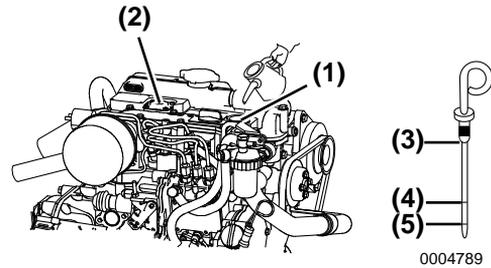

Figure 6
2. **NOTICE:** Prevent dirt and debris from contaminating engine oil. Carefully clean the dipstick, filler port cap and the surrounding area before you remove the cap. Remove the dipstick (Figure 6, (3)) and wipe with a clean cloth.
4. Remove the dipstick. The oil level should be between upper (Figure 6, (4)) and lower (Figure 6, (5)) lines on the dipstick.
1. *NOTICE: Prevent dirt and debris from contaminating engine oil. Carefully clean the dipstick, filler port cap and the surrounding area before you remove the cap. Remove the yellow oil filler port cap from the filler port (Figure 6, (1)) on the rocker arm cover (Figure 6, (2)) and fill with engine oil.*
2. Fill with engine oil to the upper limit (Figure 6, (4)) on the dipstick (Figure 6, (3)). *NOTICE: NEVER overfill the engine with engine oil.*